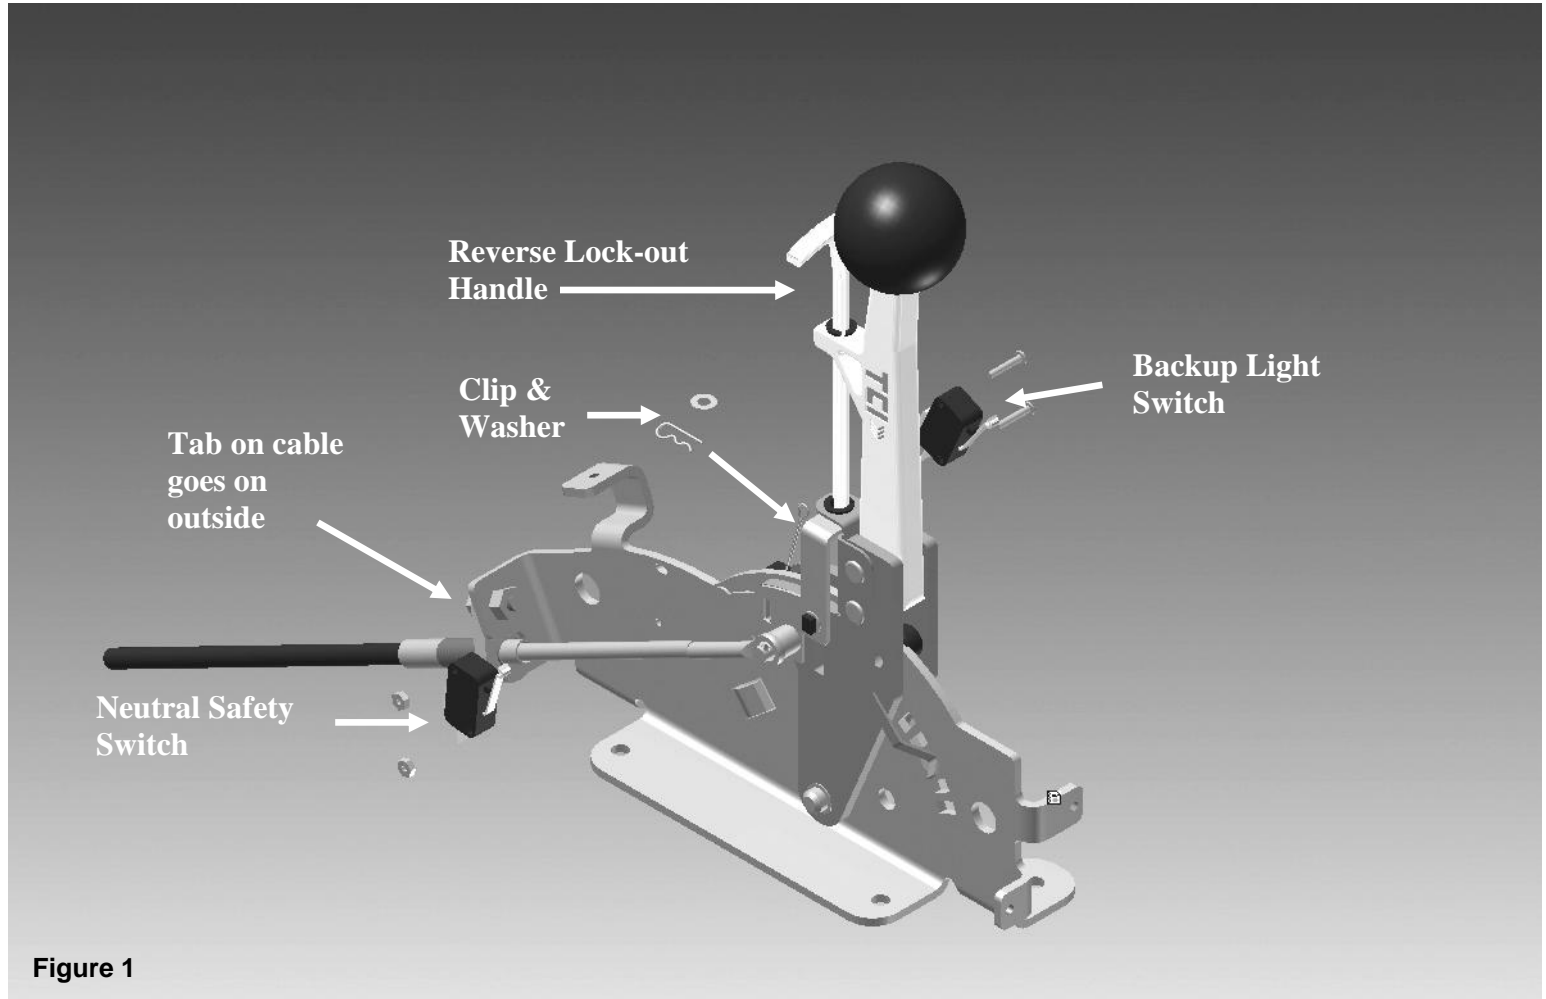

Figure 1
**STEP 5.** Install jam nut, ball handle and the Reverse lock-out arm using the clip and washer shown in **Figure 1**.
**STEP 6.** (This step is omitted on 1969 and later Chrysler vehicles.) Assemble the neutral safety switch and the backup light switch to the shifter using two #4-40 screws, nuts and lock washers, as shown in **Figure 1**. The backup light switch is on the other side of the backing plate and is not seen in the illustration. **Beware,** over tightening the switch attachment screws will crack the switch housings. Install the switch assembly on the shifter. To adjust the switch loosen the screws and slide the switches as required, then retighten the screws.
**STEP 7.** Install the cable on the shifter as shown in **Figure 1**. The tab should be bolted to the outside surface of the shifter base using the 1/4" X 1/2" hex bolt and lock washer. Install the cable end to shifter mechanism.
**STEP 19.** On Ford vehicles, the neutral safety/backup light switch is located on the transmission (or on the steering column on some early vehicles). If the vehicle has an AOD transmission the neutral safety/backup light switches on the TCI® shifter will **NOT** be used. The neutral safety/backup light switch on the AOD transmissions will continue to function normally. If using an AOD you must use TCI# 618016 linkage kit. On the C-4 and C-5 transmissions it is necessary to completely remove the stock neutral safety/backup light switch in order to install the TCI® transmission shift lever. On C-4, C-5 and C-6 transmissions, it will be necessary to hook up the neutral safety/backup light switches on the TCI® FastGate shifter. Locate and identify the neutral safety (the engine will not crank unless these wires are connected together), and reverse light wires. Disconnect the battery ground cable before beginning to wire the neutral safety and reverse light switches. Reroute the wires to the shifter. Strip 1/4" insulation off the wires and install the supplied slip-on terminals. Crimp the terminals onto the wires using a crimping tool or pliers. Connect the neutral safety wires to the switch on the driver's side of the shifter and the backup light wires to the other switch (**See Figure 1**). Tape the terminal connections to prevent shorts. Reconnect the battery ground cable, disconnect the coil wire and set the parking brake. Check the switch operation by attempting to start the motor in each shifter position. **The starter must crank only when the shifter is in the Park or Neutral position.** Check the backup light operation when the shifter is shifted to the Reverse position. Adjust the switches if required. Reconnect the coil wire. Go to **Step 26**.
**STEP 25.** Neutral safety/backup light switch. '66-'68: The neutral safety switch will continue to function normally. It will not be necessary to hook up the neutral safety switch wires on the shifter. Disconnect the battery ground cable before wiring the backup light switch. Locate the original backup light switch on the steering column or the console shifter. Run these wires to the switch on the passenger's side of the TCI® FastGate (**See Figure 1**). Reconnect the ground wire and check the light for proper operation. Adjust the switches on the shifter if required. '69 and Later: The neutral safety/backup switch is located on the transmission and will continue to function normally. It will not be necessary to connect any wires to the switches on the shifter.
**STEP 26.** Put shifter in low gear and remove the ball handle, the jam nut and the Reverse lockout from the shifter. To remove the Reverse lockout handle, remove the spring clip and washer at the bottom of the rod and pull the assembly upwards. There is a small washer between the rod and the "U" shaped stamping, do not lose it (**See Figure 1**).
**STEP 27.** Install the correct shift indicator decal onto the cover. Use a bottle and "roll" the decal around it to make it easier to put on the cover. Place cover over the assembly and while holding the front up, replace the Reverse lockout assembly and reinstall the washer and spring clip (**See Figure 1**). Use the hex head countersunk screws to attach the shifter cover to the shifter. Reinstall the jam nut and ball handle. Move the shifter through the full travel and notice the clearance in the cover slot. If the stick rubs the cover, either the cover or the shifter is improperly installed.